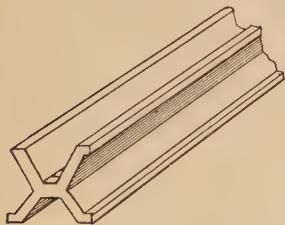

FIG. 1. — The international meter.
7. Meter and yard. The **meter** is the distance between two lines on a metal bar (Fig. 1) which is preserved in the vaults of the International Bureau of Weights and Measures near Paris.*